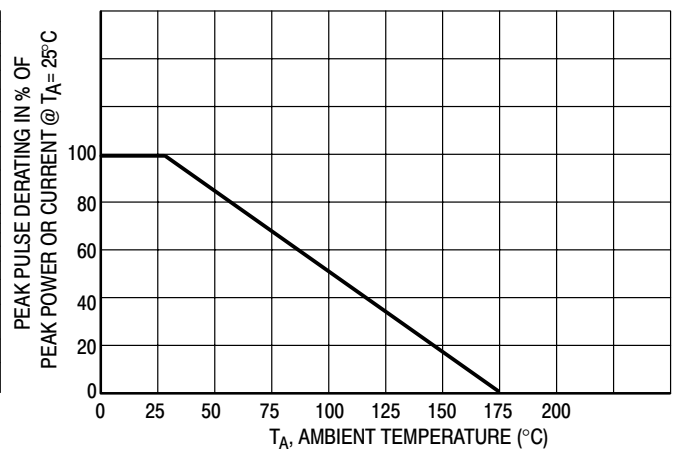
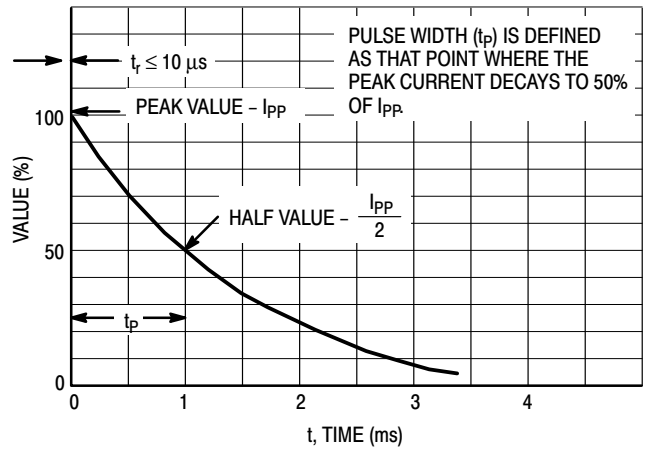

Figure 2. Pulse Derating Curve
Figure 4. Pulse Waveform
1. Nonrepetitive current pulse per Figure 4 and derated above $T_A = 25^\circ\text{C}$ per Figure 2.
- Surge current waveform per Figure 4 and derate per Figure 2 of the General Data – 1500 W at the beginning of this group